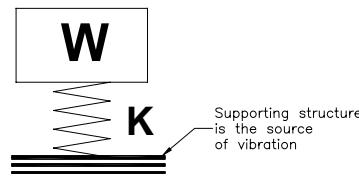

Figure 2
2. Motion excitation: The isolator is used to protect the supported mass from disturbances of the supporting structure (see Figure 2). An example is the use of mounts under a coordinate measuring machine.